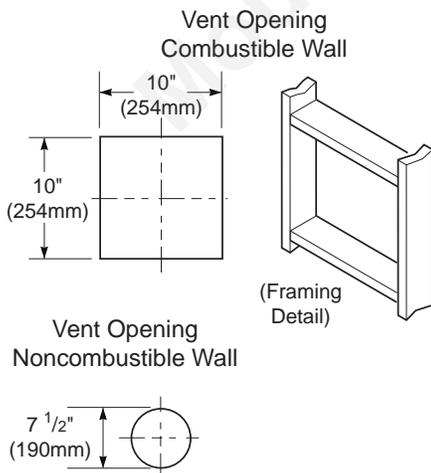
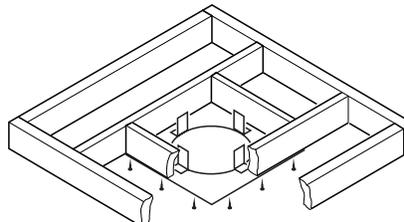

Figure 12 - Vent Opening Requirements
Figure 22 - Installing Firestop
- Attach vent pipe assembly to the fireplace. Set fireplace in front of its permanent location to insure minimum clearances. Mark the wall for a 10" square hole (for noncombustible material such as masonry block or concrete, a 7 1/2" diameter hole is acceptable). See Figure 12. The center of the hole should line up with the centerline of the horizontal rigid vent pipe. Cut a 10"x10" (254mm x 254mm) square hole through combustible exterior wall (7 1/2" [190mm] diameter hole if noncombustible). Frame as necessary (see Figure 12).
- Cut a 10" square hole in the ceiling using the locating hole as a center point. The opening should be framed to 10"x10" (254mm x 254mm) inside dimensions, as shown in Figure 12 on page 9 using framing lumber the same size as the ceiling joists. If the area above the ceiling is an insulated ceiling or a room, nail firestop from the top side. This prevents loose insulation from falling into the required clearance space. Otherwise, install firestop below the framed hole. The firestop should be installed with no less than three nails per side (see Figure 22).
- Cut a hole in the roof using the locating hole as a center point. (Cover any exposed open vent pipes before cutting hole in roof.) The 10"x10" hole must be measured on the horizontal; actual length may be larger depending on the pitch of the roof. There must be a 1" clearance from the vent pipe to combustible materials. Frame the opening as shown in Figure 12, page 9.